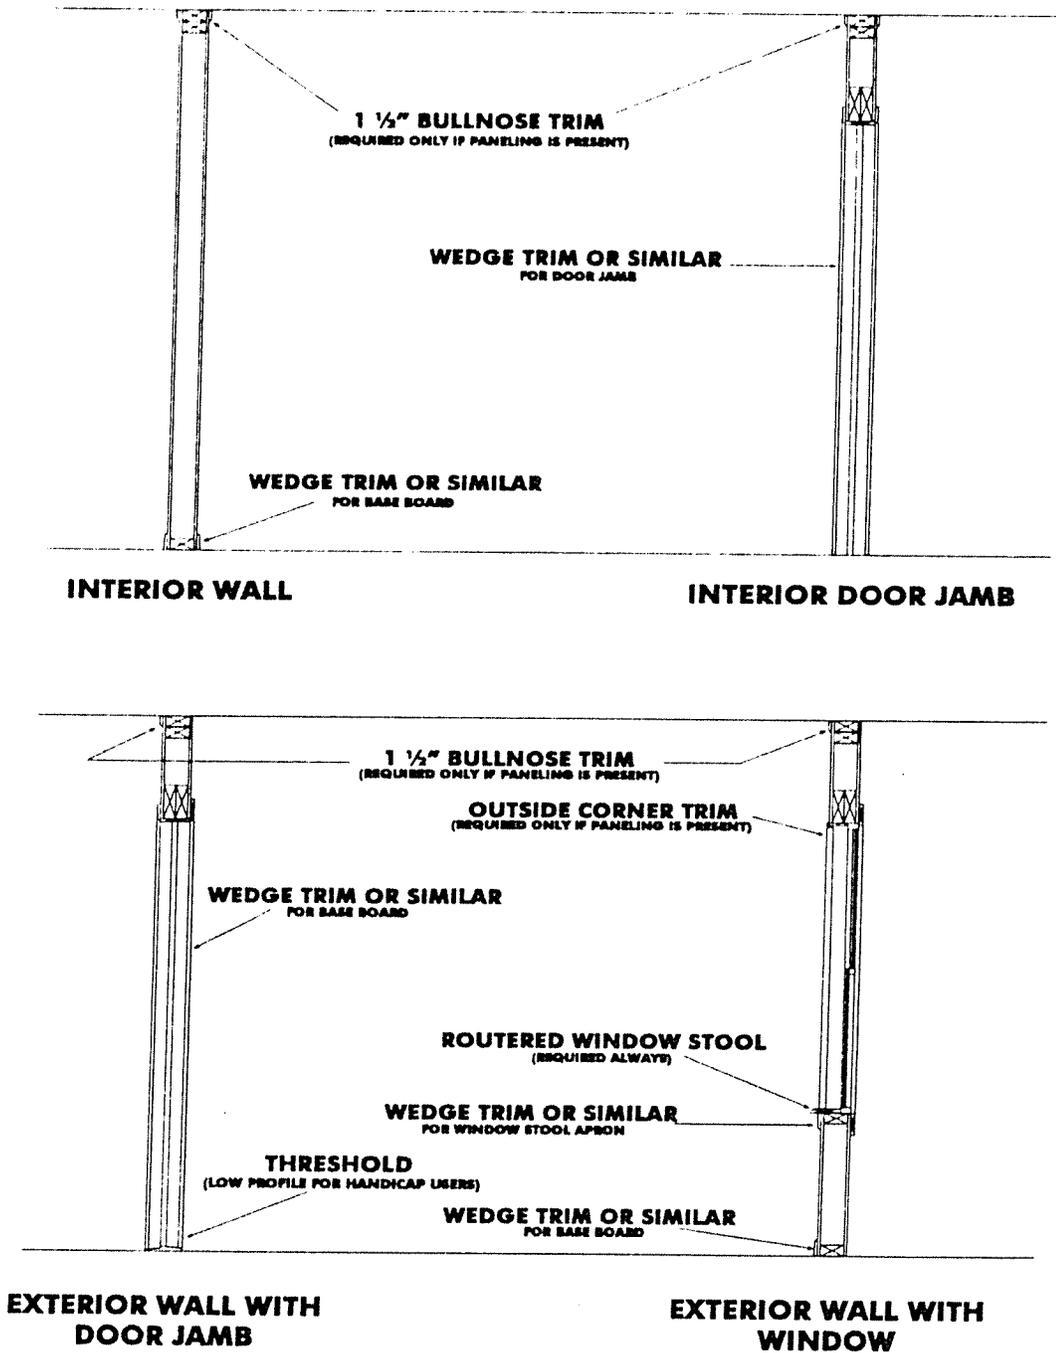

FIGURE 14.1
This section addresses the finish trim and painting for the home. Figure 14.1 shows the different finish requirements to use for various parts of the house. Still, when these general outlines and rules do not fit the particular finish work the contractor should (ad-lib) to trim & finish the particular component as best as possible. When completed the finish work should match & blend itself in a consistent manner.
The minimum required finish trim material is finger joint wedge trim which is paintable. Then all windows should also be trimmed with window stools & apron as well. Follow the diagrams in FIGURE 14.1 for complete details to always pass your inspections.
1. Provide new trim where missing to match existing trim as per **Figure 14.1**.
3. Where unorthodox areas do not allow for trim installation as per **Figure 14.1**, the contractor shall provide adequate trim installations of a presentable nature.